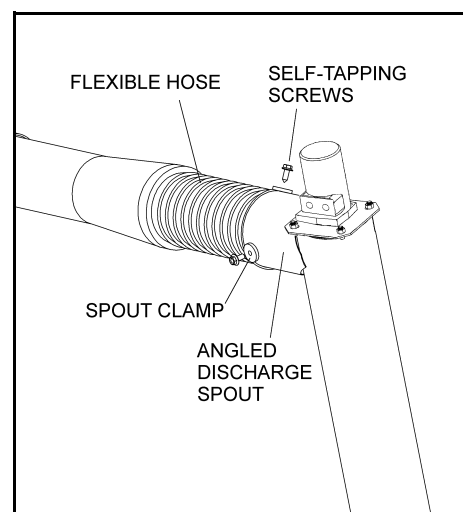

Figure 3.13
1. Slip flexible portion of the telescopic unload spout over auger outlet (Figure 3.13). Secure unload spout with three concave washers and 1/4" x 3/4" self-tapping screws.